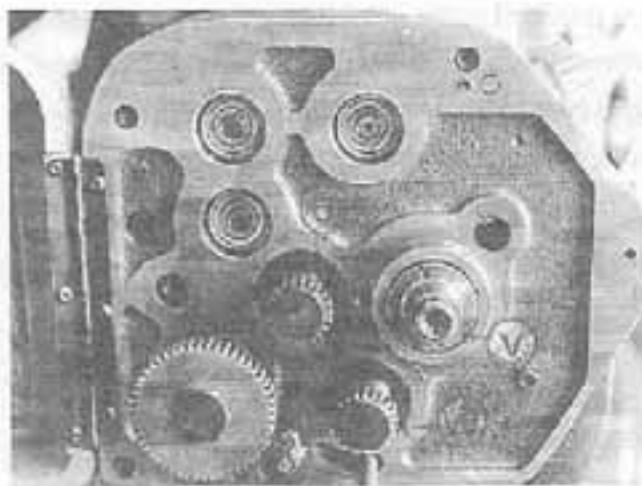
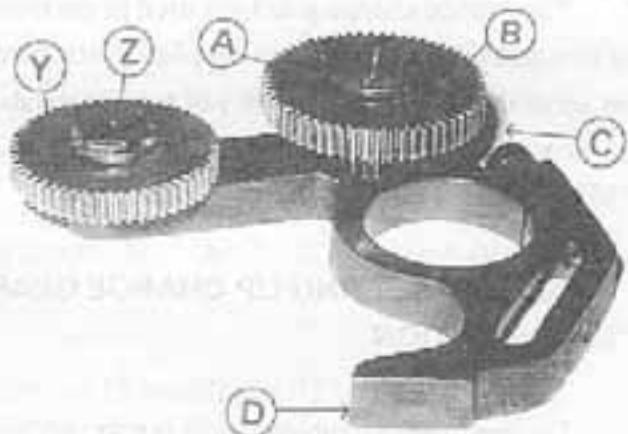
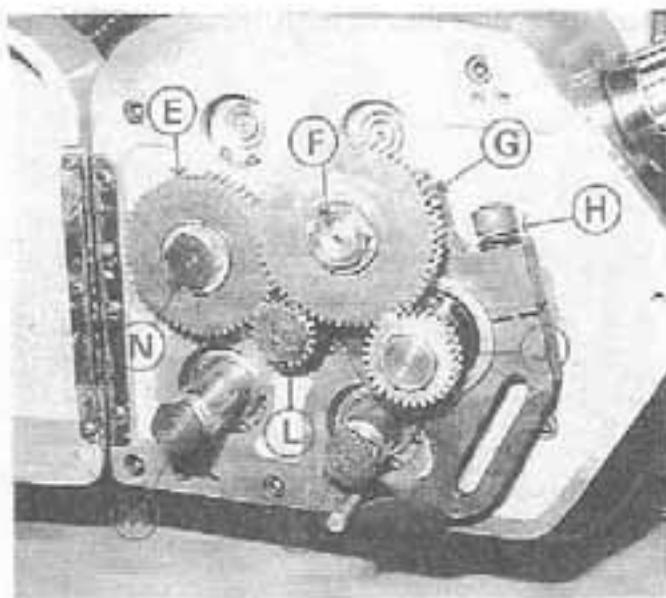

Figure 5 - Threading Gearbox
Figure 6 - Change gear Bracket
Figure 7 - Mounting Change Gear Bracket
The outside change gears are used to cut threads not provided in the quick-change gearbox. A set of five gears and a bracket are supplied as standard equipment with each machine. These gears, when set up to the gear chart, Page 8 will cut 10 threads per inch or 0.25 mm pitch according to set up. Three of the gears are shipped on the bracket and the other two are in place on the shafts as shown at "U" and "W", Figure 5.
Fastened to the tumbler handle bracket within the gear box is a round safety bar "X", Figure 5, that extends out through a slot in the gearbox plate. This bar is to prevent applying change gears outside the gearbox until the tumbler handle is placed in the "OUT" position.
- 2 On English side of change gear bracket "D", Figure 6, mount "First Gear on stud" "C" with spacer between gears. Do not tighten bolt "A" fully.
5. If thread chart specifies number of teeth in "First Gear" to be other than 22 teeth, remove gear "U" Figure 5, and replace with specified gear.
7. Mount Change gear bracket assembly, Figure 6, on pivot post "V", Figure 5. Do not tighten bracket bolt "H", Figure 7, fully.
8. Make certain key is in place and mount "Screw Gear" "J", Figure 7. Replace bolts "K" and "M".
9. Adjust "Second Gear on Stud" "G", Figure 7, with 0.003-0.004 backlash between it and "Screw Gear" "J". Use plastic shim stock to help determine backlash. Tighten bolt "F".
(b) When disassembling setup, remount 22 tooth gears "U" and "W", Figure 5.
5. Remove "First Gear" "U", Figure 5, and replace bolt. Do not misplace key.
- (b) When disassembling setup, remount 22 tooth "Tumbler Gear" "W", Figure 5, and 22 tooth "First Gear" "U".